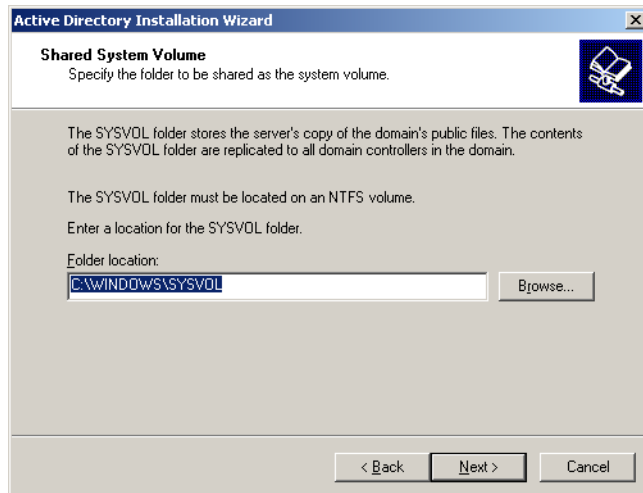

Figure D-35 Shared system volume
18. Leave the default folder location for the Shared System Volume, as shown in figure D-35, then click the **Next** button to continue.